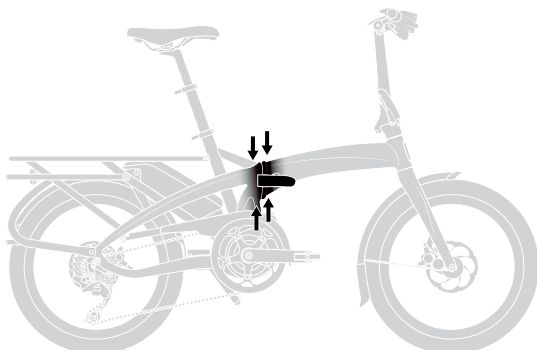

fig. 15
- Check the frame, particularly in the area around all tube joints and hinges (fig. 15); the handlebars; the stem; and the seatpost for any deep scratches, cracks or discoloration. These are signs of stress-caused fatigue and indicate that a part needs to be replaced.